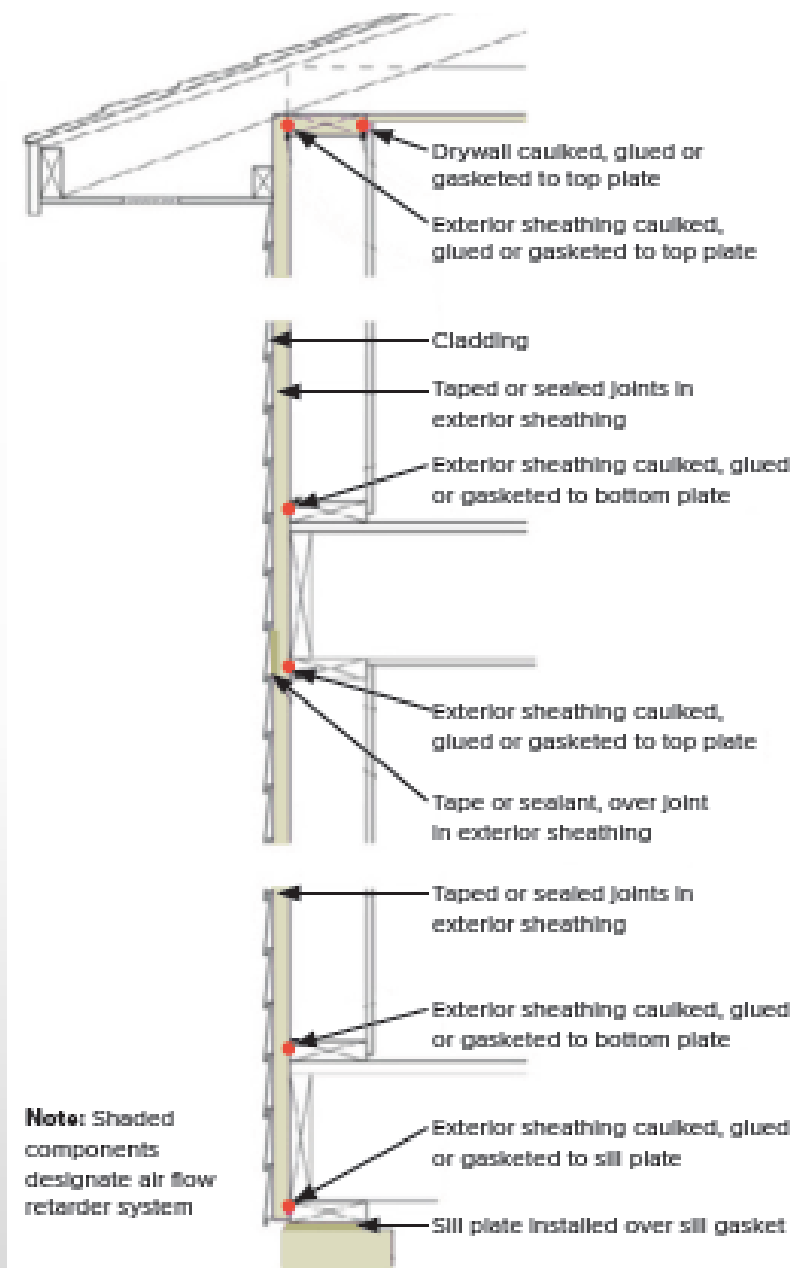

Figure 3. FPIS ci Installed as an air barrier exterior sheathing.
When RULE #1 is followed and the FPIS ci is installed per Figure 3 as a code compliant air barrier, walls are less vulnerable to the consequence of air leakage for two reasons: (1) the FPIS ci will help limit air infiltration from the exterior (especially if it is also used as the WRB system, see RULE #3), and (2) it will also reduce the potential for moist air to condensate on or be adsorbed by moisture-sensitive materials inside the wall because it controls the temperature of those materials. Find more information on use of FPIS as an air barrier [here](https://www.continuousinsulation.org/resources/facts-ci).